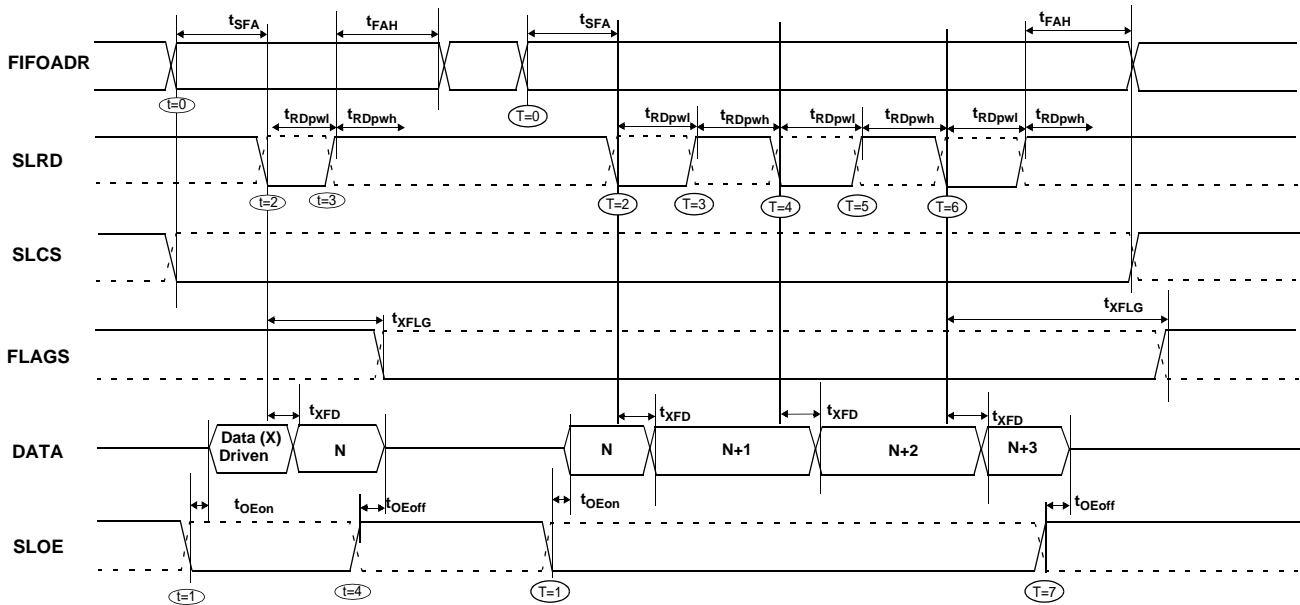

Figure 10-21. Slave FIFO Asynchronous Read Sequence and Timing Diagram[20]
Figure 10-21 diagrams the timing relationship of the SLAVE FIFO signals during an asynchronous FIFO read. It shows a single read followed by a burst read.
- The data that will be driven, after asserting SLRD, is the updated data from the FIFO. This data is valid after a propagation delay of  $t_{XFD}$  from the activating edge of SLRD. In Figure 10-21, data N is the first valid data read from the FIFO. For data to appear on the data bus during the read cycle (i.e., SLRD is asserted), SLOE MUST be in an asserted state. SLRD and SLOE can also be tied together.